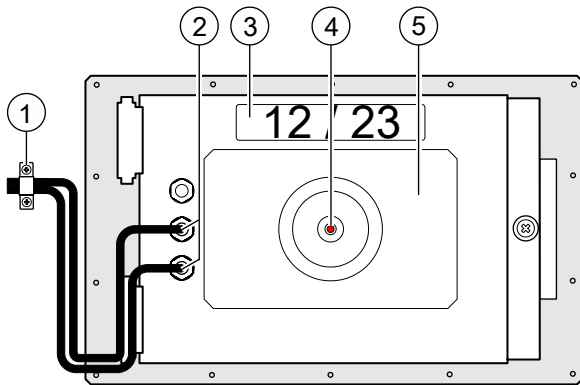
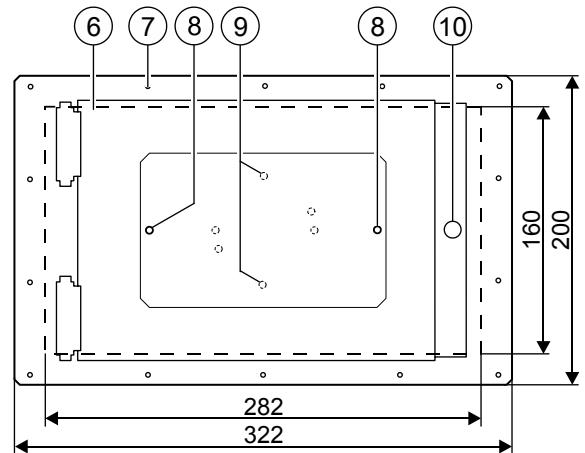
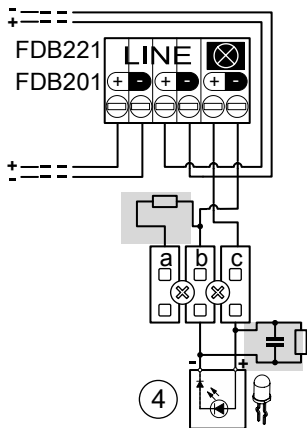
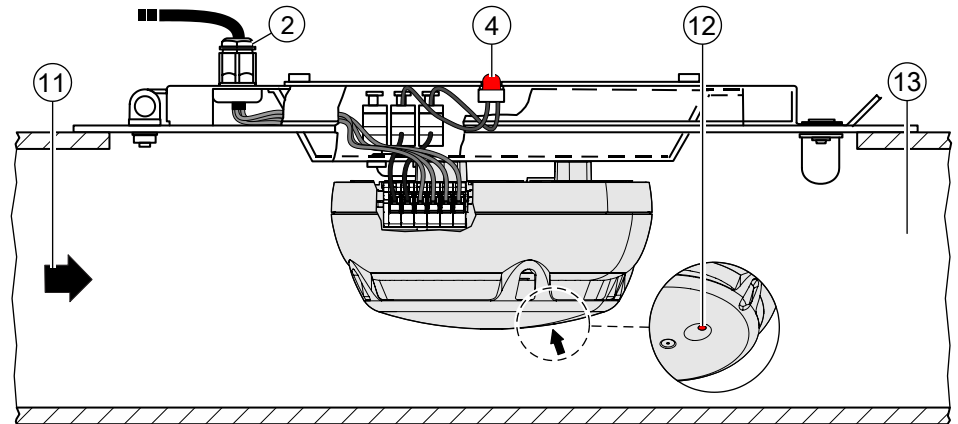

Fig. 1
Fig. 2
Fig. 3
Fig. 4
2. Mark the duct cut-out section (Fig. 2/6) and the position of the directional bore hole according to the supplied jig.
7. Drill the other 13 mounting holes (Fig. 2/7).
1. Use a cable clip to relief the connection cable from the ventilation duct (Fig. 1/1).
2. Guide the cable through the cable gland (Fig. 1/2 and Fig. 4/2) and into the detector installation kit.
3. Loosen 2 screws (Fig. 2/8) and lift off the installation cover (Fig. 1/5).
1. Loosen the quick-release fastener (Fig. 2/10) and open the flap of the mounting kit.
Install the detector base in such a way that the internal alarm indicator of the detector is not in air flow direction (Fig. 4/11,12).
2. Use 2 M4 x 16 cylinder screws to screw the detector base FDB221 or FDB201 into the mounting holes (Fig. 2/9).
3. Affix the designation plate to the detector installation kit in accordance with the planning documents (Fig. 1/3).
1. Remove the existing additional circuit (Fig. 3, gray background).
2. Connect the prepared connection cables to the detector base (Fig. 3).
3. Connect the external alarm indicator (Fig. 4/4) to the mounting kit via the terminal (Fig. 3/4).
4. Place the installation cover in position (Fig. 1/5) and tighten the 2 screws (Fig. 2/8).
2. Zeichnen Sie Kanalausschnitt (Fig. 2/6) und Position der Richtbohrung gemäß mitgelieferter Schablone an.